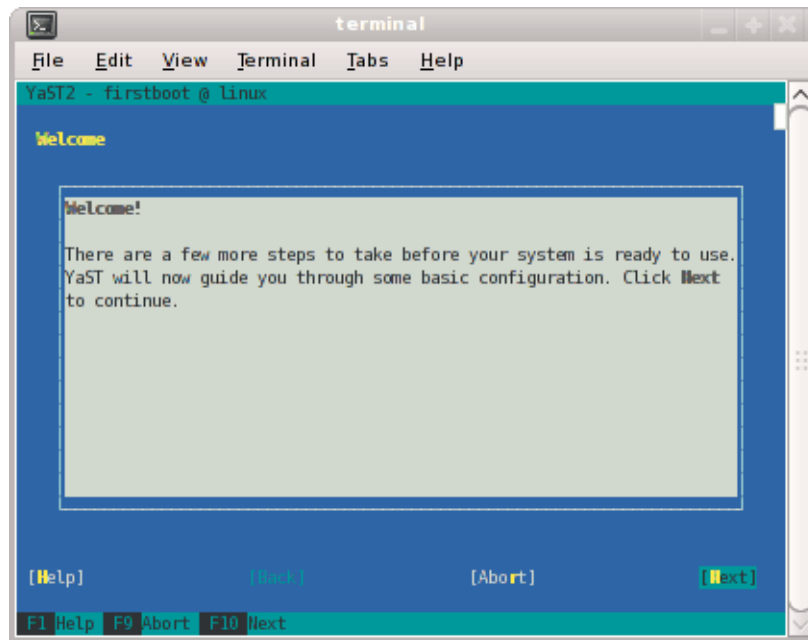

Figure 1-6 YaST2 - firstboot@Linux Welcome Screen
4. After the reboot completes, you will eventually see the **YaST2 - firstboot@Linux Welcome** screen, as shown in Figure 1-6 on page 13. Select the **Next** button to continue.